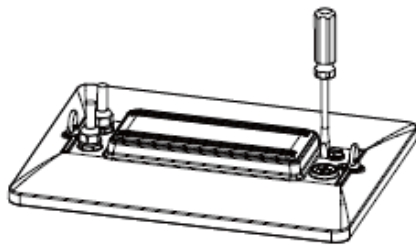

Figure 1
1. Remove the  $\frac{3}{4}$  plug on the back of the fixture with a screwdriver. (Fig. 1)